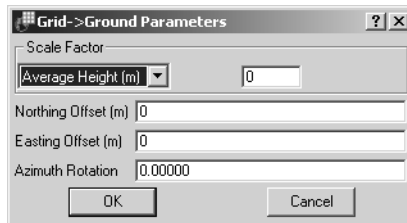

Figure 3-27. Grid to Ground Parameters
3. Enter the applicable transformation parameters (Figure 3-27).